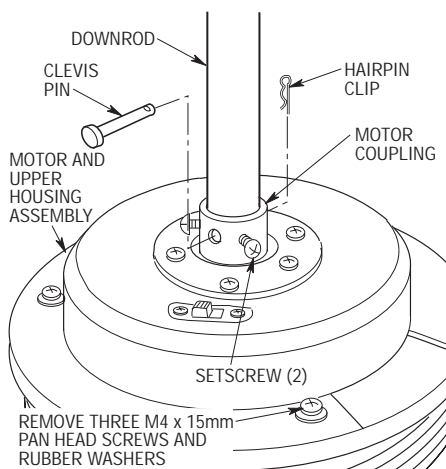

Figure 4
- 5. Unscrew the two setscrews (Figure 4) until they clear the inside of the motor coupling. Then separate, untwist and unkink the three 80" motor leads. Route the motor lead wires through the downrod. Align the clevis pin holes in the downrod with the holes in the motor coupling. Install the clevis pin and secure with the hairpin clip (Figure 4). The clevis pin must go through the holes in the motor coupling and the holes in the downrod. Be sure to push the straight leg of the hairpin clip through the hole near the end of the clevis pin until the curved portion of the hairpin clip snaps around the clevis pin. The hairpin clip must be properly installed to prevent the clevis pin from working loose. Pull up on the downrod to make sure the clevis pin is properly installed.
It is critical that the clevis pin in the motor coupling is properly installed and the setscrews securely tightened. Failure to verify that the pin and setscrews are properly installed (as shown in Figure 4) could result in the fan falling.
- 6. Tighten the two setscrews (Figure 4) securely while pulling up on the downrod.
- 7. Remove and retain three M4 x 15mm pan head screws and rubber washers from the motor and upper housing assembly (Figure 4).